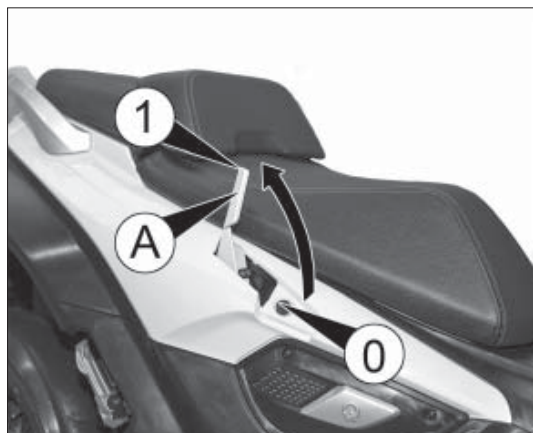

fig. 7
- rotate the parking brake lever A fig. 7, located on the right-hand side of the scooter, from position 0 position 1;